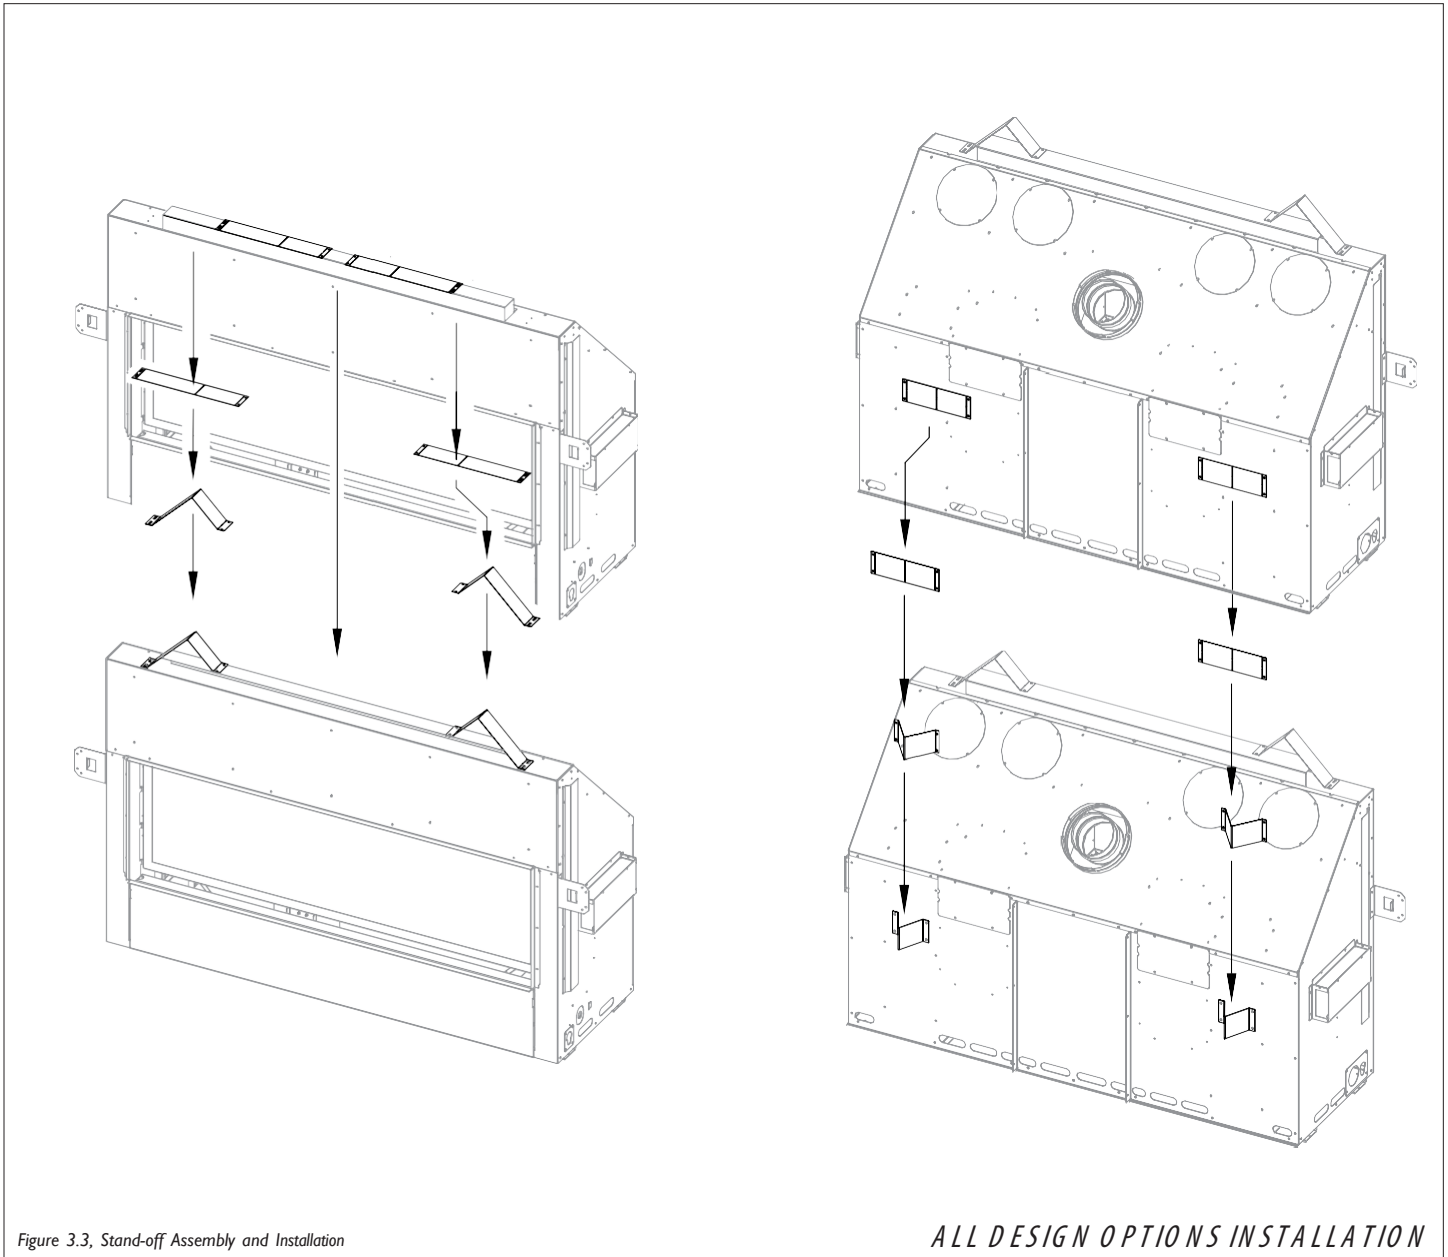

Figure 3.3, Stand-off Assembly and Installation
**WARNING:** The top stand-offs brackets provide the required minimum clearance to the header. The clearance to header must be maintained. See Figure 3.3 below for installation